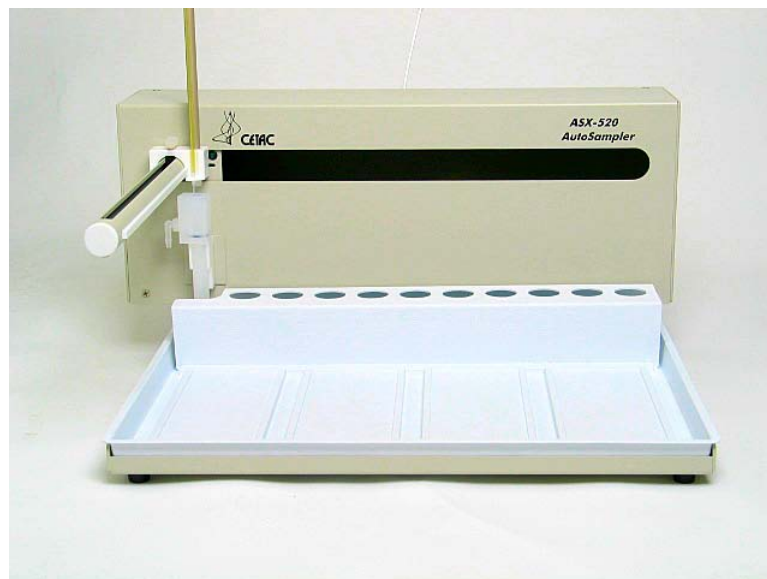

Figure 1-1. Front view of ASX-520 autosampler.
- 1 Place the autosampler on a flat surface (Figure 1-1) and turn the unit off.